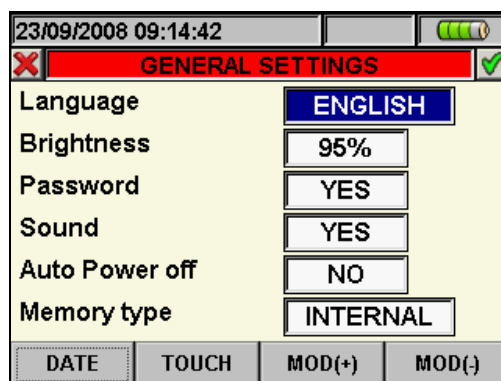

Fig. 9: General Settings screen
1. Press the **F1** key (or touch **DATE** at display) on screen of Fig. 9. The below screen is shown by meter: